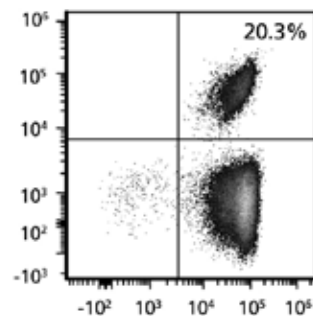
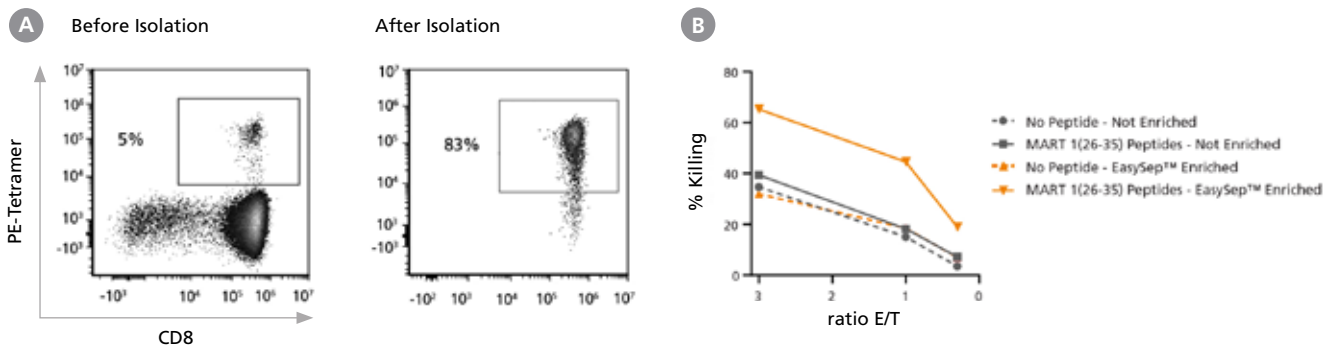

Figure 6. Mo-DCs Promote Expansion of CMV Peptide-Specific CD8⁺ T Cells After 10 Days of Co-Culture
Figure 8. Enrichment of Expanded Antigen-Specific Cells Using Tetramer and EasySep™ Improves Antigen-Specific Killing Activity
*Note: The tetramer is selected depending on the HLA alleles of the donor and the specific peptide used to activate and expand the cells, e.g. if the cells are stimulated with CMV (pp65) Peptide Pool, then use iTag Tetramer/PE – HLA-A*02:01 CMV pp65 (NLVPMVATV) (see experiment data shown in Figure 6); if the cells are stimulated with MART 1(26-35) peptides, then use iTag Tetramer/PE – HLA-A*02:01 Mart-1 (ELAGIGILTV).*
In this case study, we present results showing that Mo-DCs generated with ImmunoCult™ Dendritic Cell Culture Kit and pulsed with desired peptides, when co-cultured with CD8⁺ T cells, promote proliferation and expansion of antigen-specific CD8⁺ T cells. Mo-DCs promoted proliferation of peptide-specific CD8⁺ T cells in a short-term, 6-day co-culture system (Figure 5) and 10-day co-culture system (Figure 6). Expanded CD8⁺ T cells showed antigen-specific responses when assessed for CD107 expression to measure degranulation (Figure 7A, 7C), IFN-γ production (Figure 7A, 7C), expression of activation marker 4-1BB (CD137) (Figure 7B, 7C), and cytotoxic killing activity (Figure 8) using flow cytometry.